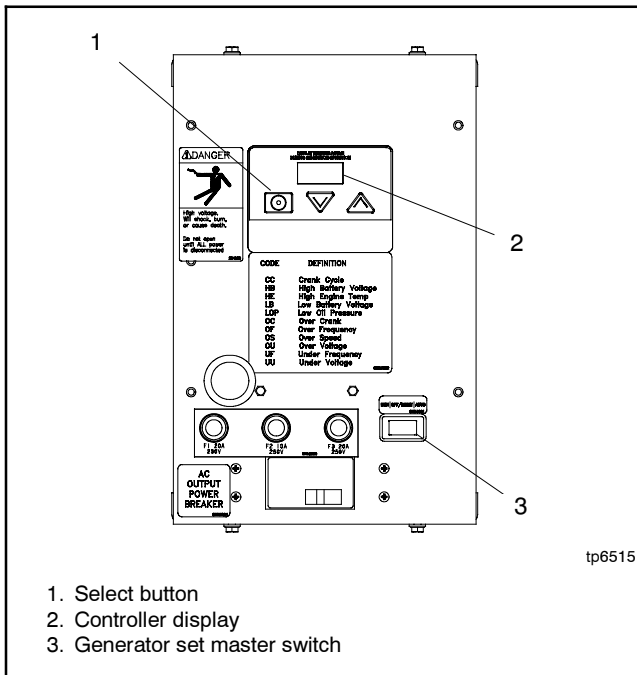

Figure 20 ADC-RES Controller and Master Switch
1. Move the generator set master switch to OFF/RESET. See Figure 20.